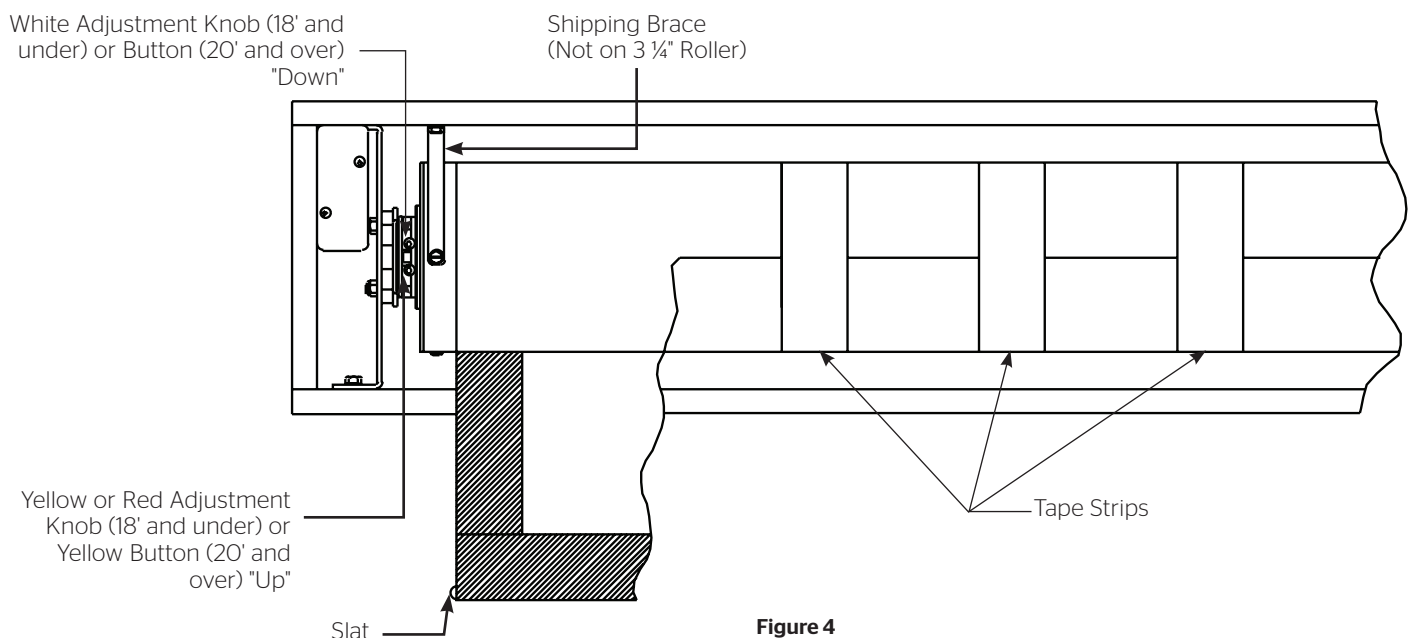

Figure 4
4. Remove shipping brace by removing 2 hex head screws (Fig. 4).
5. Remove wrapping paper and tape strips (Fig. 4).
2. When the screen stops, turn the white "down" limit knob (Fig.4) one-quarter turn counterclockwise. Test by raising picture surface approximately two feet, then lower again. Repeat until desired picture surface position is attained.
3. Turn the white "down" limit switch (Fig. 4) one-quarter turn clockwise. Test by raising picture surface approximately two feet, then lower again. Repeat until desired picture surface position is attained.
1. Press the white button on motor until it clicks (Fig. 4)..